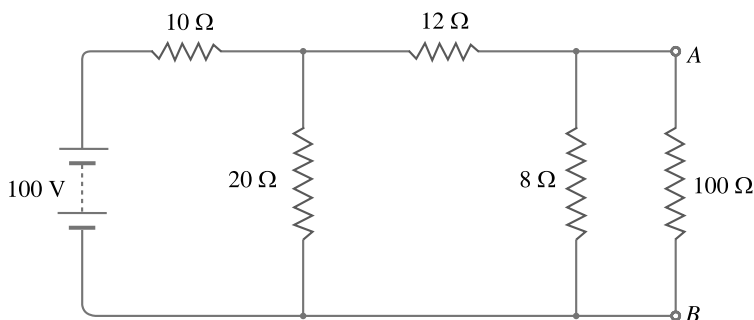

Fig. 1.30
**Example 1.10.** Using Thevenin's theorem, find the current through  $100\ \Omega$  resistance connected across terminals  $A$  and  $B$  in the circuit of Fig. 1.30.